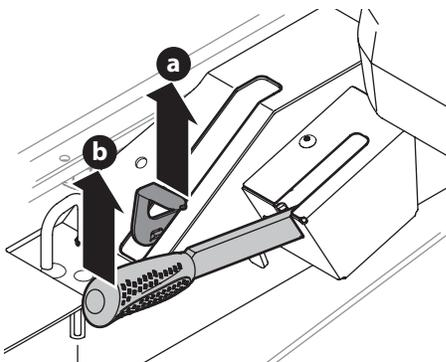

Figure 2
2. Engage the transmission bypass valves by pulling the bypass lever (a) outward then upward and all the way back (Figure 2).
4. To release the bypass lever (a), push the lever forward (Figure 2).
5. To engage the parking brake, pull back completely on the parking brake lever (b) (Figure 2).